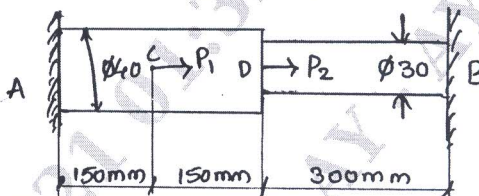

Fig.Q2(b)
- b. A stepped bar of steel held between two supports as shown in Fig.Q2(b) is subjected to load $P_1 = 80\text{KN}$ and $P_2 = 60\text{KN}$. Find the reaction developed at End A and B. (12 Marks)